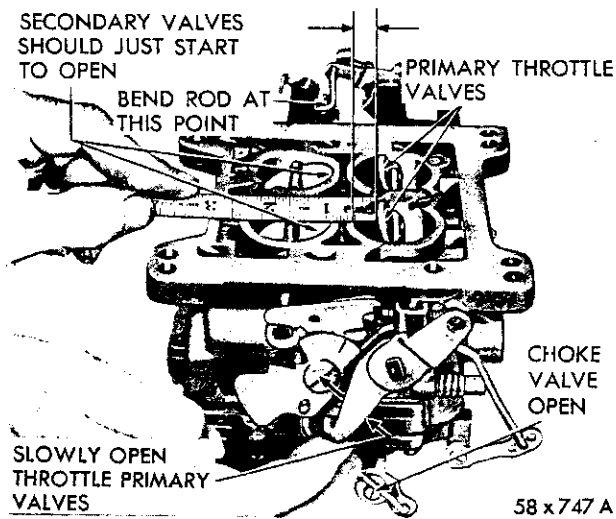

Fig. 37—Checking Secondary Throttle Opening
(2) Slowly open the primary throttle valves until it is possible to measure $19/64$ inch between the lower edge of the primary valve and the bore (opposite idle port) as shown in Figure 37. At this measurement, the secondary valves should just start to open.
(3) The stop lugs on both the primary and secondary throttle levers should contact the bosses on the flange at the same time.
(4) If an adjustment is necessary, bend the secondary throttle operating rod at the angle, using Tool T109-213, until correct adjustment has been obtained.
(5) At wide open throttle, the primary and secondary throttle valves should reach the full vertical position.